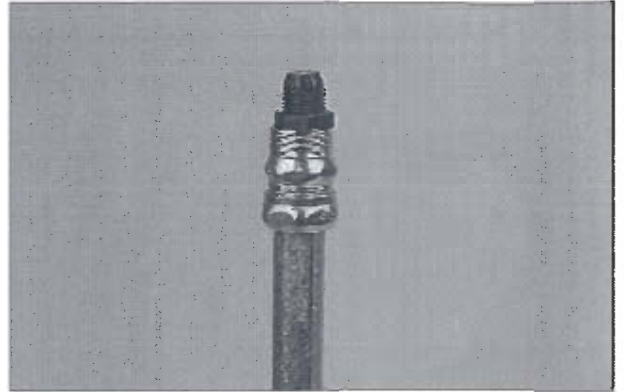

FIGURE 86
7. Remove strain relief nut and install strain relief body into compression union. See Figure 86.